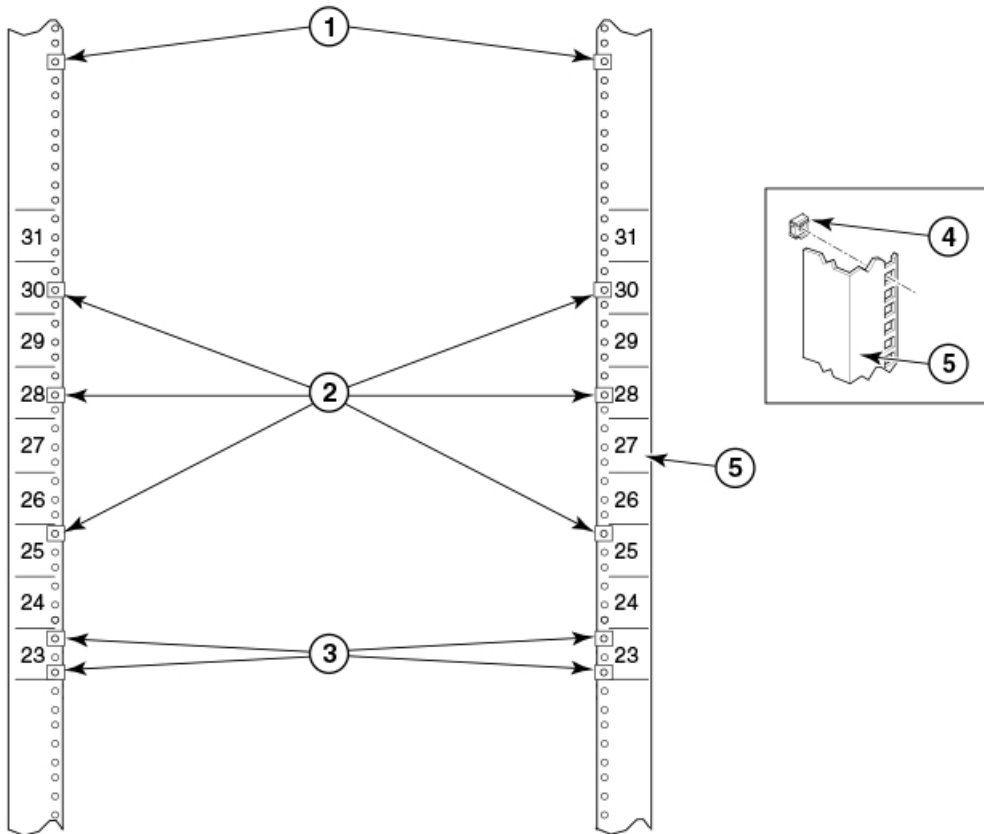

Figure 11. Clip and retainer nut locations on rack rails
**Note:** For rails with round holes, use the clip nuts (refer to Figure 10 on page 27) on the rails for securing the 10-32 screws. For rails with square holes, use the retainer nuts (see Figure 10 on page 27). Also refer to Figure 11 on page 29.